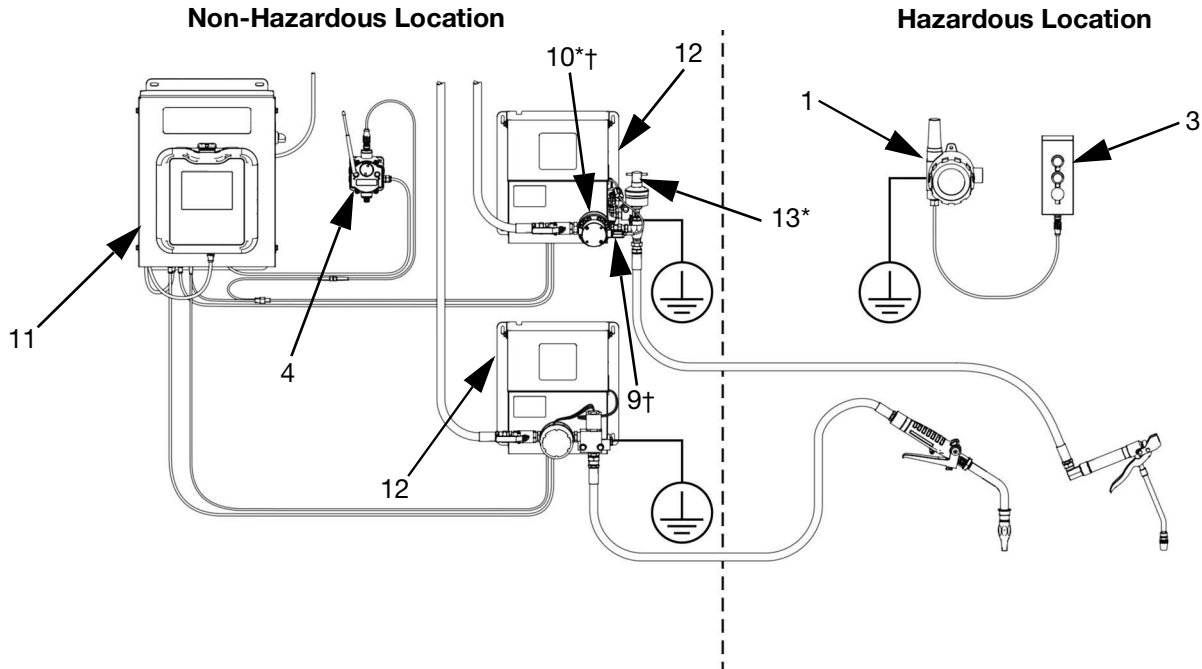

FIG. 4 Typical Installation with Hazardous Location Wireless Remote
The wireless remote kit can be installed either with or without barrier enclosures. The typical installation shown in FIG. 4 on page 12 represents an installation without barrier enclosures. With this installation, the wireless remote kit can be integrated into an existing ProDispense setup with very few changes to existing components.
NOTE: If you are also installing barrier enclosures, the notes in FIG. 4 include considerations for integrating barrier enclosures with the wireless remote kit. See **Barrier Enclosure Installation**, page 6, for more information about installing barrier enclosures.
Transmitter Nodes (1) and Remote Operator Stations (3): Mount to a grounded support structure for dissipation of static charges. See FIG. 4.
Gateway Modules (4): Mount to a grounded structure to prevent static build-up. See FIG. 4.
The node (1) and remote operator (3) station are located inside the hazardous location. See FIG. 4.
- Mount the remote operator station (3) in a convenient location for operator access.
- Mount the node (1) away from high-traffic areas and exposure to fluid contamination.
The gateway (4) is located outside the hazardous location with the ProDispense system and close to the ProDispense fluid control panel. See FIG. 4.
- Use the holes in the gateway's (4) housing as a template for the mounting hole pattern.